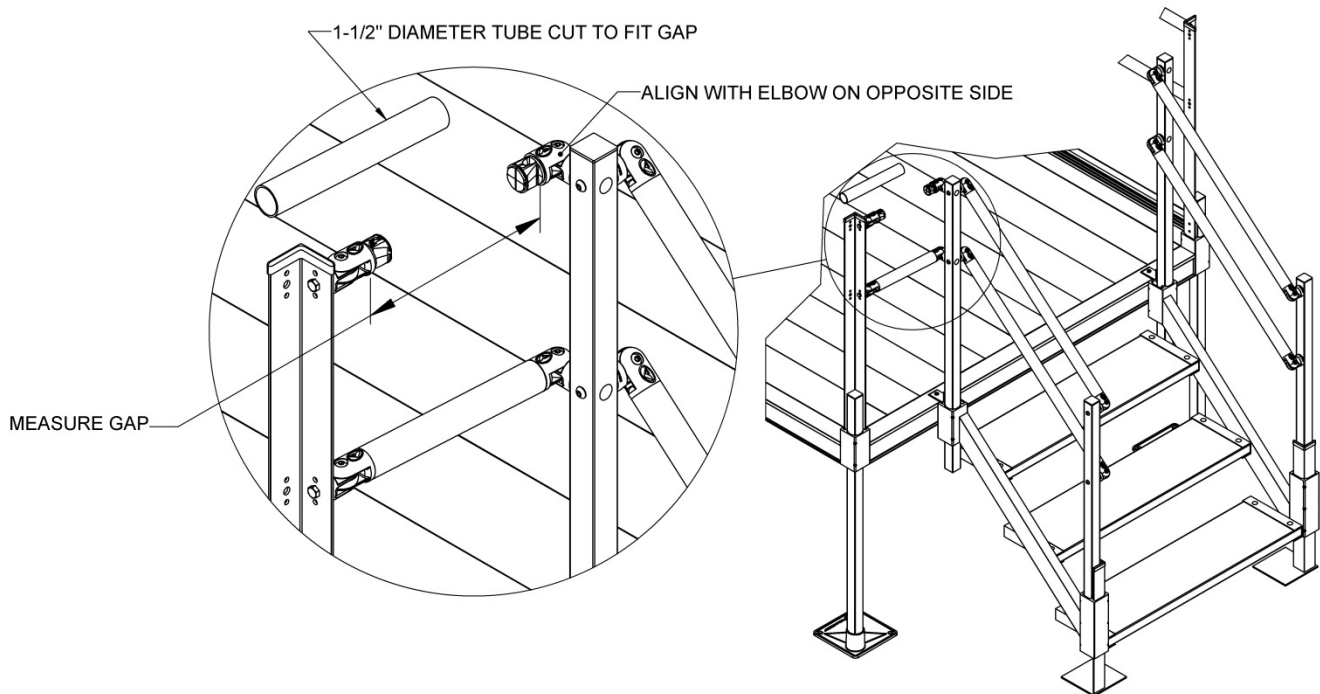

FIG. 14
- 4.4. Position the closure elbow attached to the stair top post so it is aligned with the closure elbow attached to the platform handrail post (but do not tighten fully) then measure the distance between the two larger round faces. The gap between the upper and lower closure elbows should be the same but it is advisable to check both before cutting the tubes to fit (FIG.14).